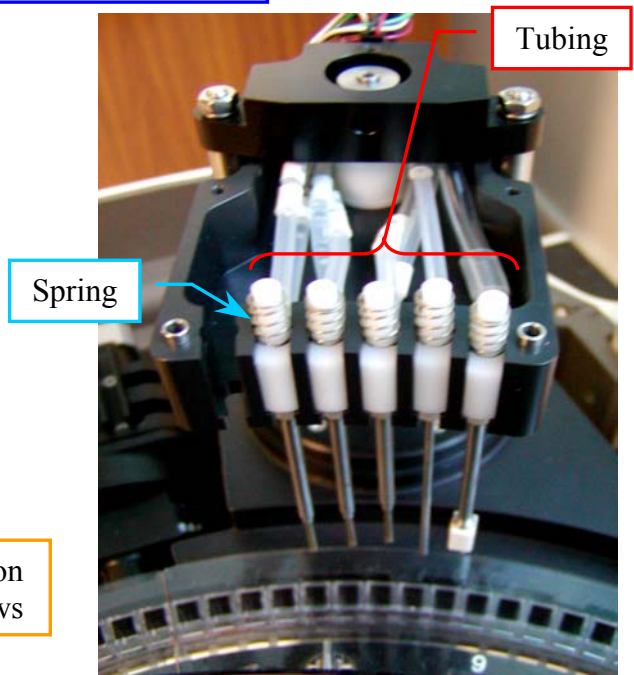

Fig. 72 - Washing Station probes
3. Disconnect the eight tubes attached to the probes on the Washing Station (**Fig. 72**).